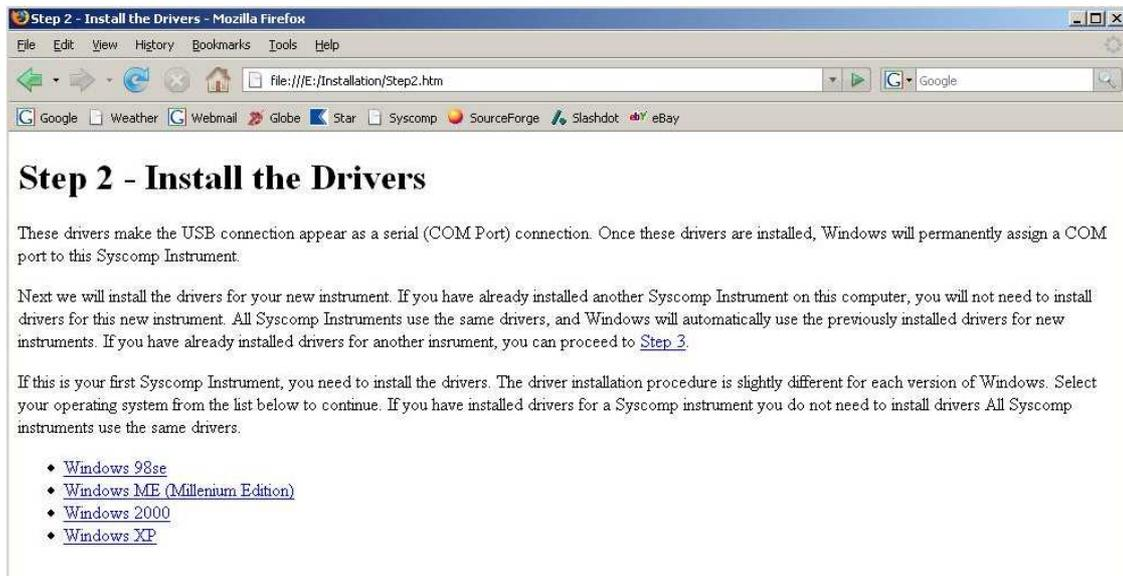

Figure 39: Step 2: Install the Drivers
9. Click on **Next**. The screen of figure 39 appears.